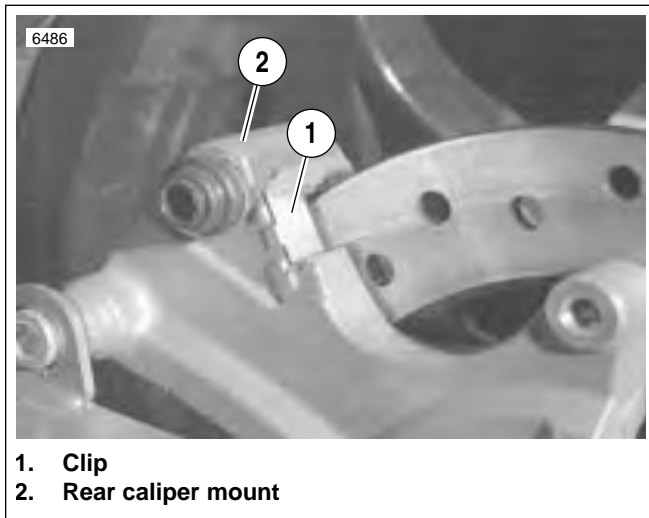

Figure 2-59. Caliper Mount Clip
1. See Figure 2-59. Install caliper mount clip (1) if removed.